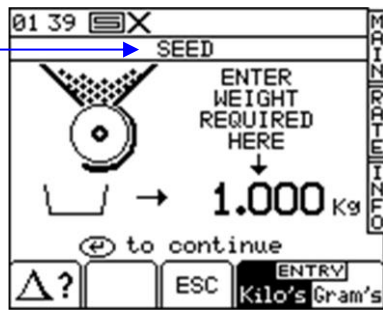

Figure 17. Pre-calibration screen
3. Otherwise, select the desired units then enter the weight required to be metered out (Fig.17) and press ENTER. The metering unit will then operate at the programmed calibration speed to dispense the correct amount of product, then stops. The instrument then displays a weight figure based on the existing programmed product calibration factor.